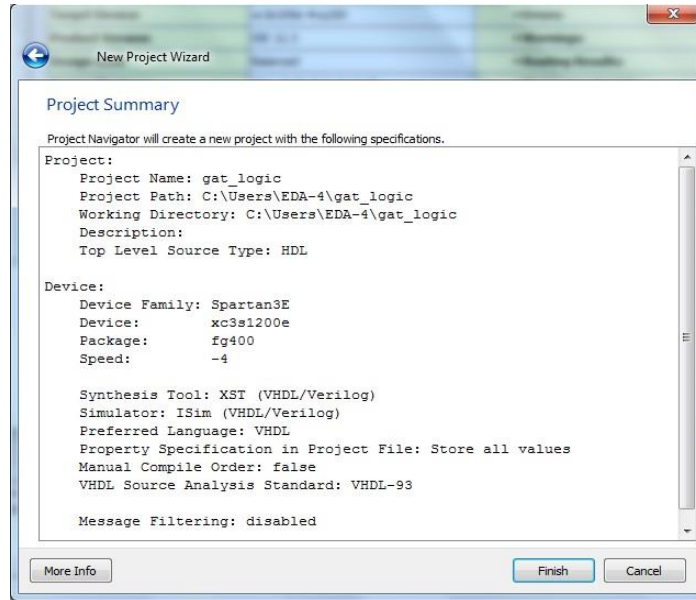

Figure 5: New Project Wizard- Project Summary
After Fulfill the Setting Click **Next**, the following Project summary window (**Figure 5**) will appear.
- vii. Click **Finish** (**Figure 5**) to complete the project creation and begin the design process.